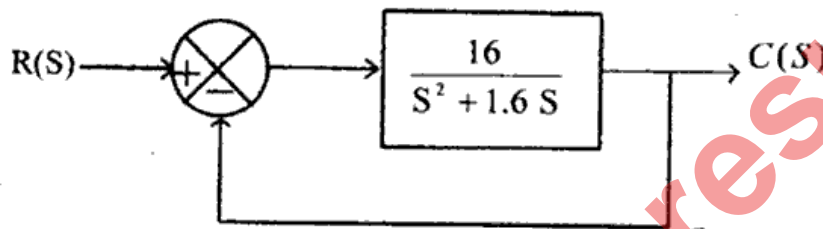

Fig .2(b)
Q.2. (b) A unity feedback control system is shown in Fig 2(b), By using deviative control, the damping ratio is to be made 0.8. Determine the value of  $T_d$  and compare the rise time, peak time and maximum overshoot for the system -